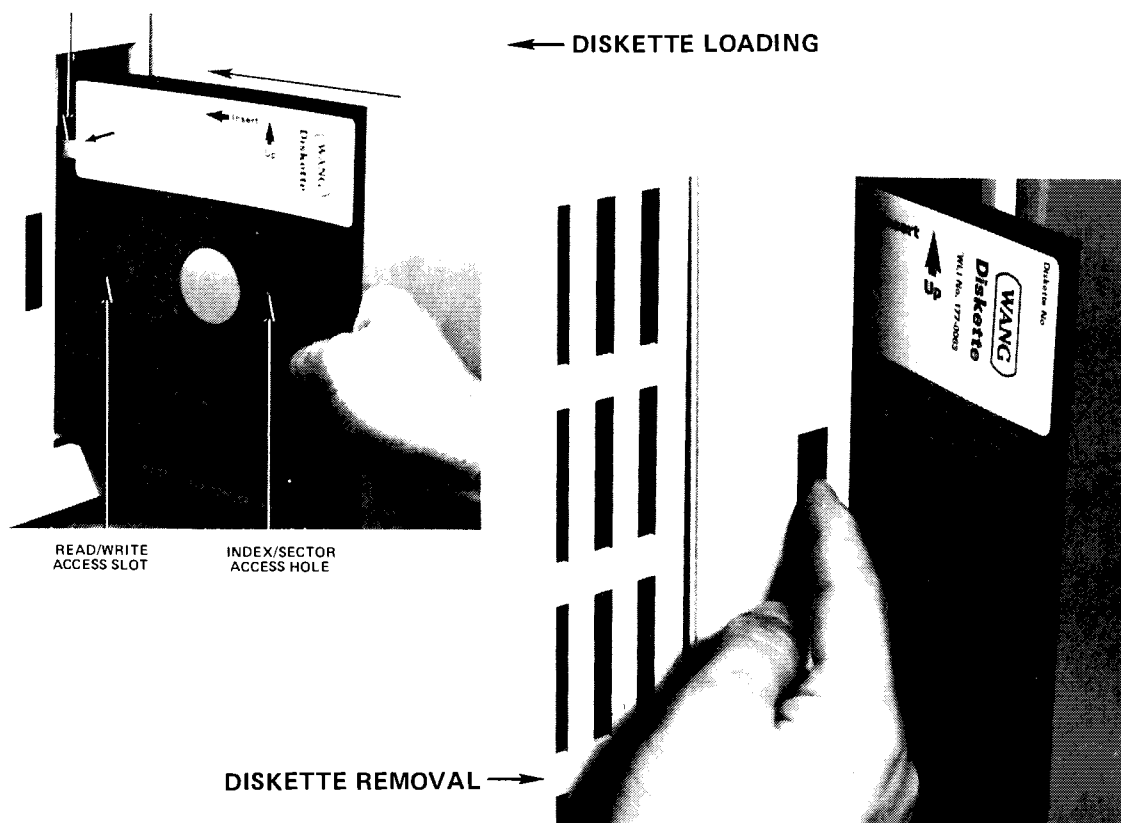

Figure 3-2.
2. Open the door of a diskette drive (at address 310, B10, 320 or B20 only) by depressing the door latch immediately to the left of the door (Figure 3-2.). The door will spring open.
5. After the system loading procedure is complete (see Figure 3-2.), the system diskette can be removed by depressing the drive door latch. The door will spring open, and the diskette will be ejected about halfway out of the drive slot.